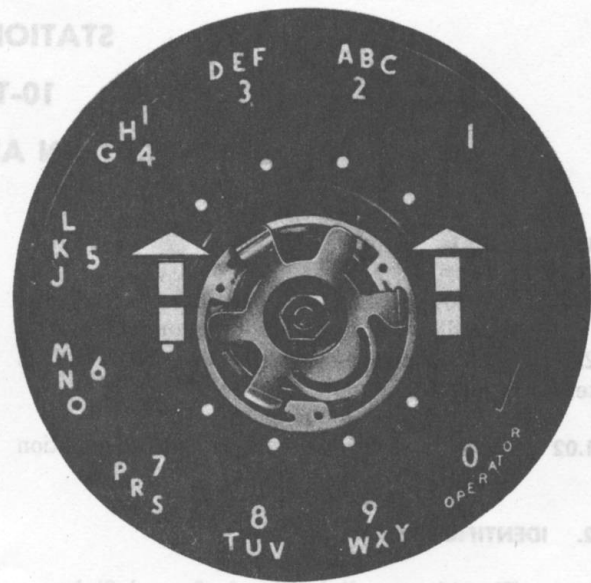

Fig. 11—Lock Ring in Extreme Forward Position for Removal
- (5) Raise lock ring until it is just under the clamp plate and slide toward the numeral 4 until the upper end of the ring can be lifted over the clamp plate (Fig. 11). Slide ring toward numeral 9 to remove. Retain lock ring for reuse.
- (6) Lift off old number plate.